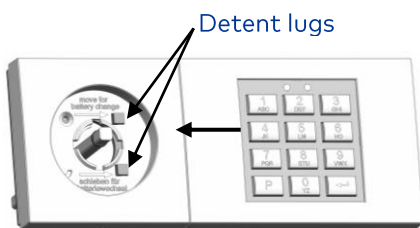

Figure 46: Moving the top part
i Remark: The detent lugs of the base part (11) must pass cleanly through the top part (8) (see also Figure 46)!